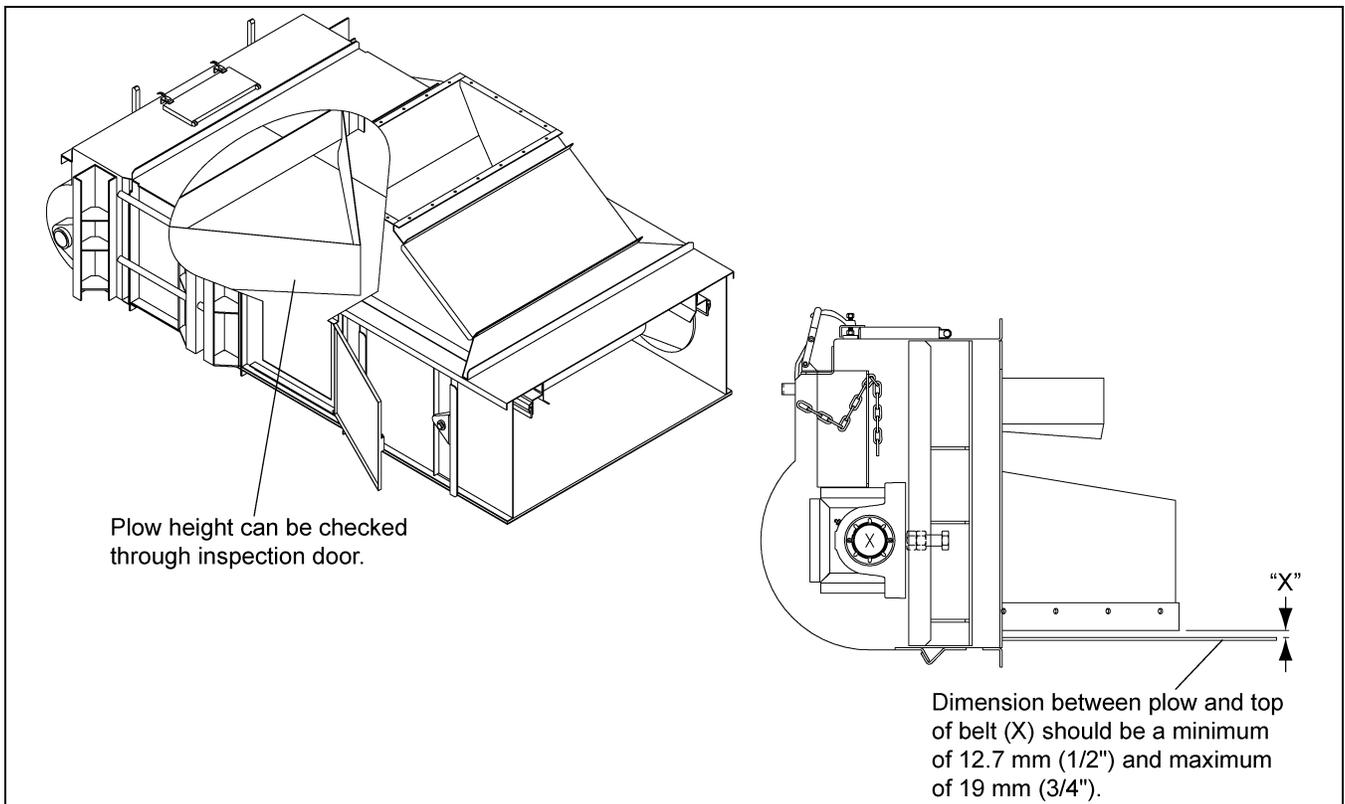

Figure 6C Tail Plow Height Adjustment
6. Adjust plow height to between 12 mm and 16 mm above belt. *(See Figure 6C on Page 51.)*